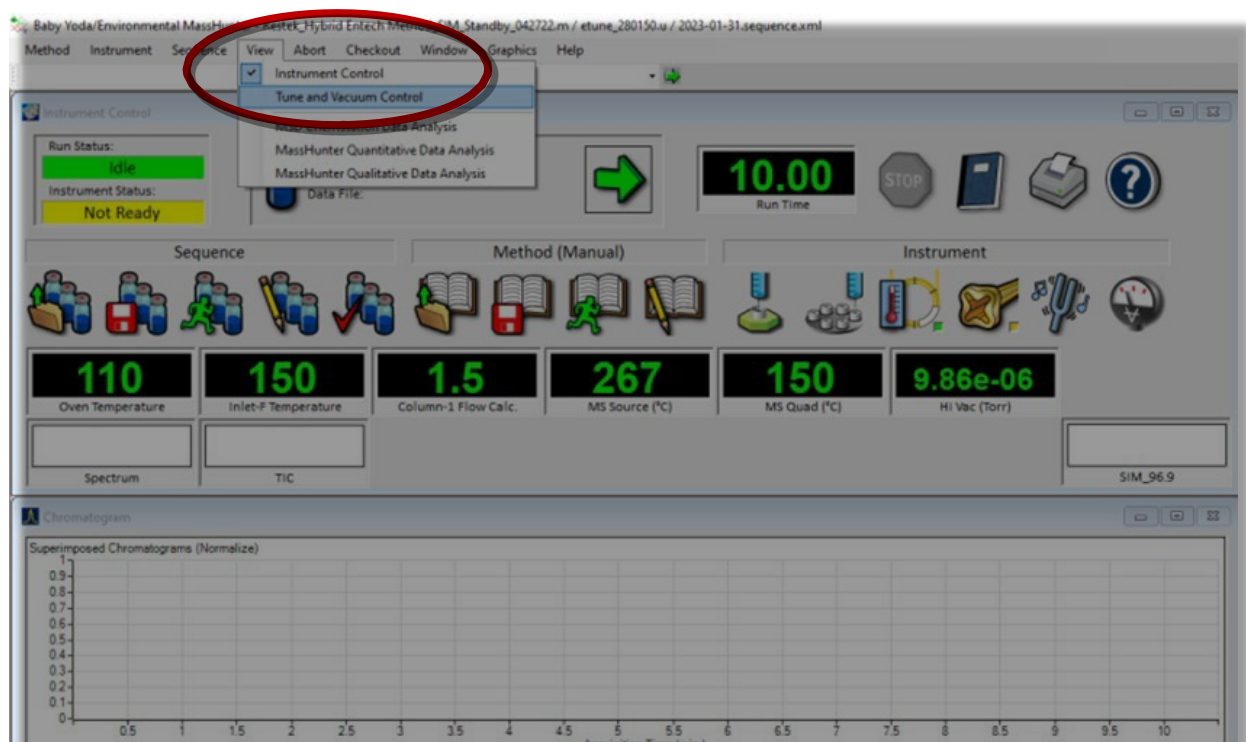

Figure 20. Selecting Tune and Vacuum Control.
5. When the oven temperature reaches 110 °C on the GC display above the keypad, click **View** on the top toolbar in the GC software and select **Tune and Vacuum Control** (Figure 20).